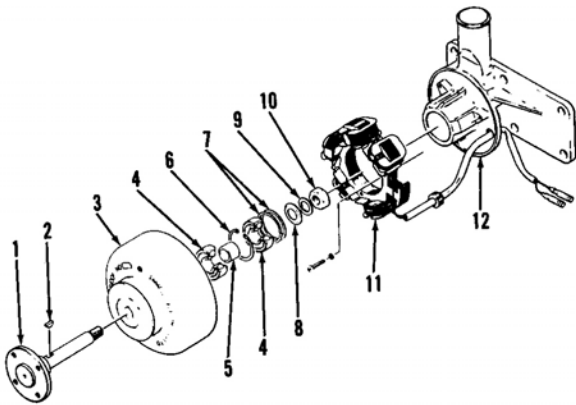

Fig. 35—Exploded view of alternator assembly.
48. Alternator is mounted on water outlet and drives cooling fan. Refer to Fig. 35 for an exploded view of alternator assembly.